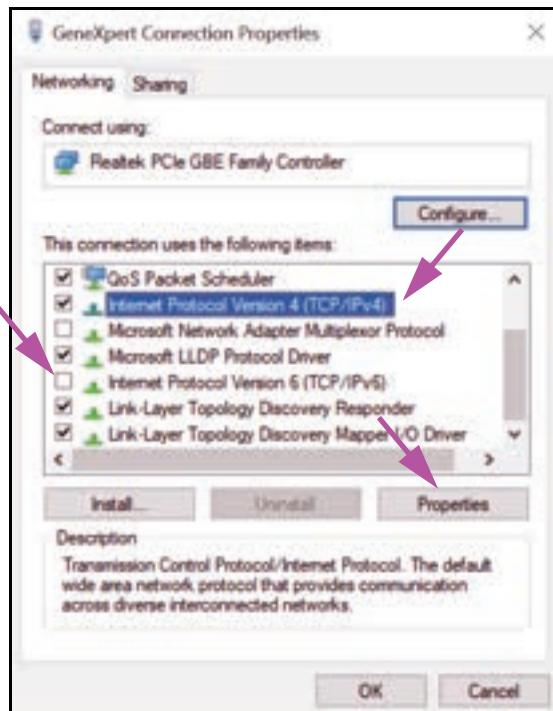

Figure 2-48. GeneXpert Connection Properties Screen
7. Select **Properties** from the drop-down menu. The screen shown in Figure 2-48 is displayed.
8. On the GeneXpert Connection Properties Screen (shown in Figure 2-48) uncheck the box next to **Internet Protocol Version 6 (TCP/IPv6)**. Highlight **Internet Protocol Version 4 (TCP/IPv4)**, and then click **Properties**. The Internet Protocol Version 4 (TCP/IPv4) Properties screen appears.